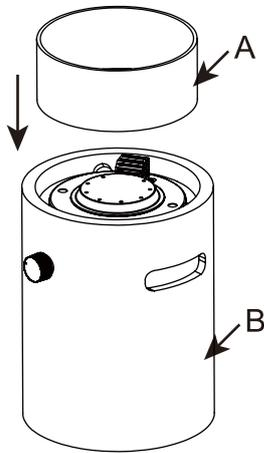

Figure 4
3. Insert glass shield (A) onto the top of fire pit body (B) (see Figure 4).